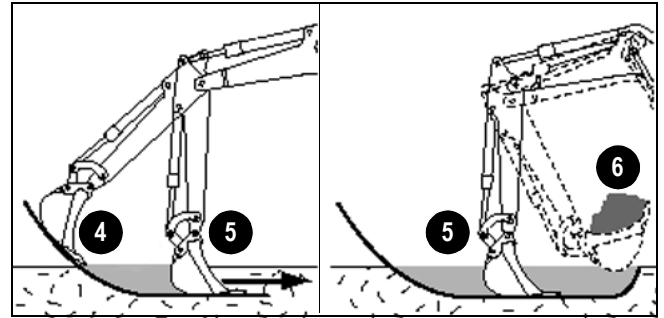

Figure 3-49 – Proper Digging Technique
1. Lower the bucket into the ground (4, Figure 3-49).
2. After the bucket penetrates the ground, adjust it so the flat side of the bucket is parallel to the ground (5, Figure 3-49).
- b. Extend the dipper arm cylinder so the bucket is tilted upward (6, Figure 3-49), and...